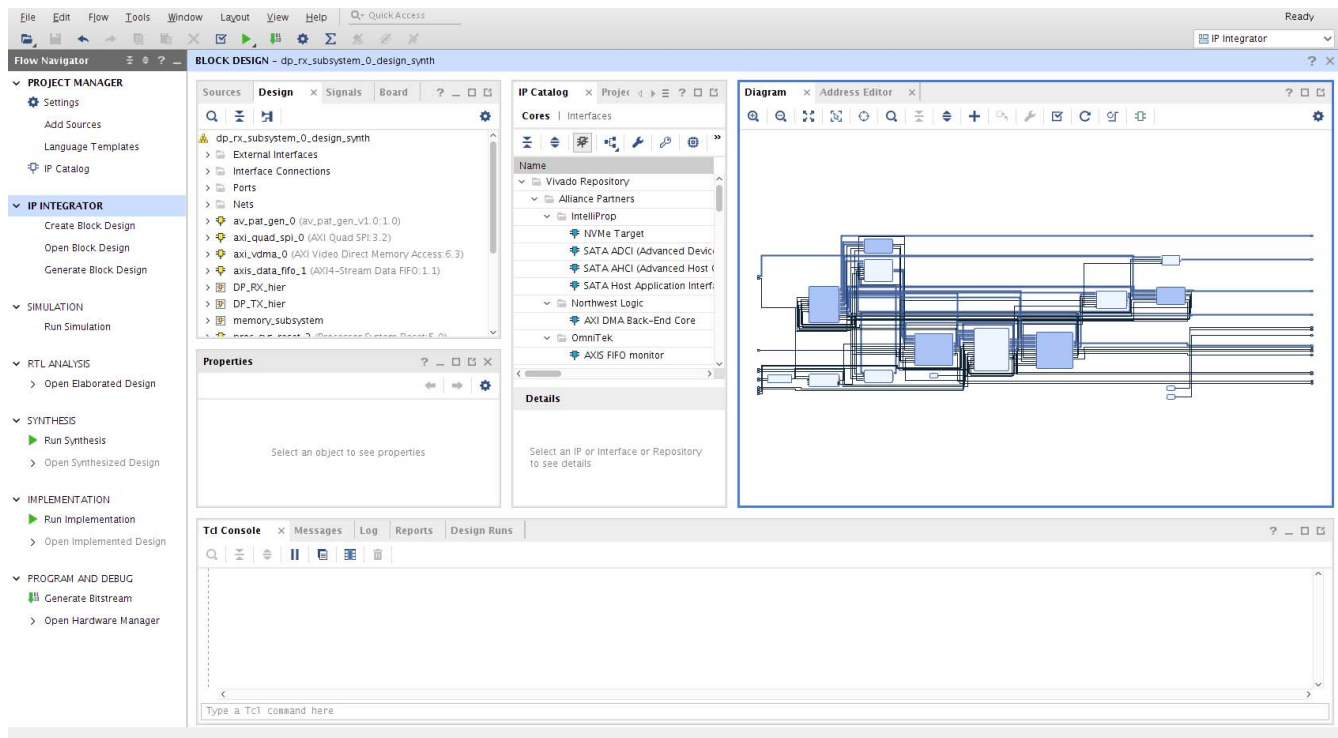

Figure 5-9: IP Integrator Design
10. Figure 5-9 shows the Vivado IP integrator design. Choose the **Generate Bitstream**.